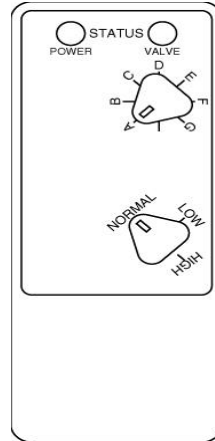

Figure 4
Timer Module: The timer module (Fig. 4) turns on and off the water solenoid valve at an adjustable on/off cycle to maintain a balance between the inlet water and the discharged chlorine solution. The timer has two controls -- one to adjust the **ON** time to: 11 seconds = Normal, 22 seconds = Low, and 30 seconds = Hi; and the second to adjust the **DELAY** time in seconds (i.e., A = 19 secs to G = 53 minutes).
2. Verify that the Power transformer is plugged into a wall receptacle that has been tested to verify that power is present. Verify timer module power light is on (see Fig. 4).